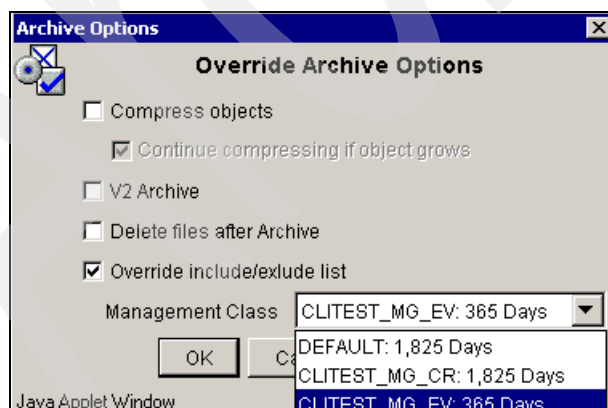

Figure 5-39 Changing the Management Class from the BA Client before archiving
2. Select **Options** → **Override Include Exclude List** and choose the desired Management Class. We select **CLITEST\_MG\_EV** (the management class we created for Event-Based Retention). See Figure 5-39.